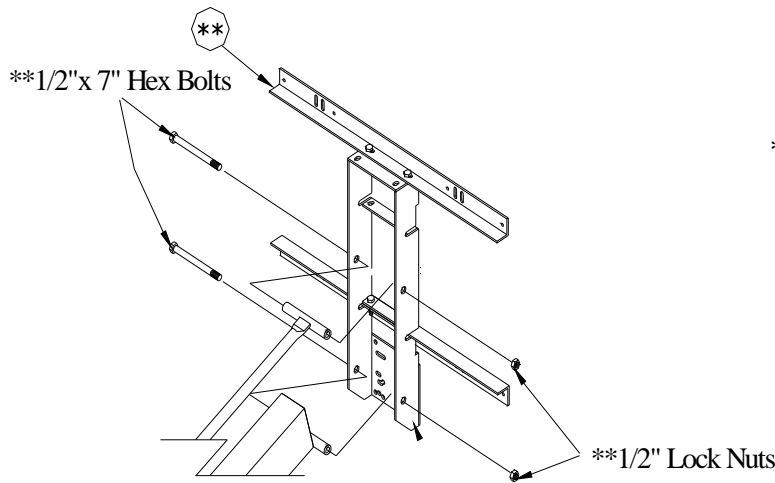

Figure 5A
12. Tighten all hardware installed from instructions #10 and #11 making sure that the *Rim (Z)*, *Backboard (Y)* and the *Backboard Mounting H-Frame (AA)* are square to each other.
13. Mount the entire rim/board/mounting H-frame assembly to the *Horizontal Extension Arm (M)* and the *Horizontal I-Rod (N)* using hardware included with *Backboard Mounting H-Frame (AA)*. This task is most easily accomplished when the pole has been cranked to the lowest possible position and the bottom bolt is inserted first. (** refers to hardware supplied w/ Backboard Mounting H-frame.) See Figure 5A and 5B.